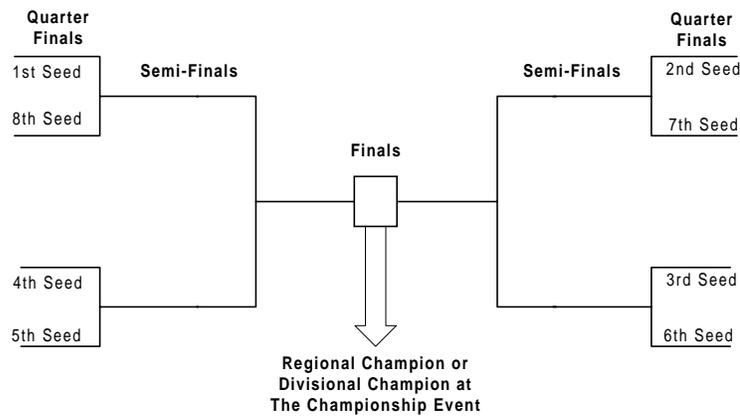

Figure T-1
- **For Regional Events and Divisions at The Championship Event:** All match series are the best 2 out of 3. The alliance led by the 1st seed competes against the alliance led by the 8th seed in a series of quarterfinal matches; the alliance led by the 2nd seed competes against the alliance led by the 7th seed in a series of quarterfinal matches, etc. Winners of the quarterfinal matches compete against each other in a series of semi-final matches. Winners of the semi-final matches compete against each other in a series of final matches with the winning alliance becoming the Regional Champion. *See Figure T-1 below.*